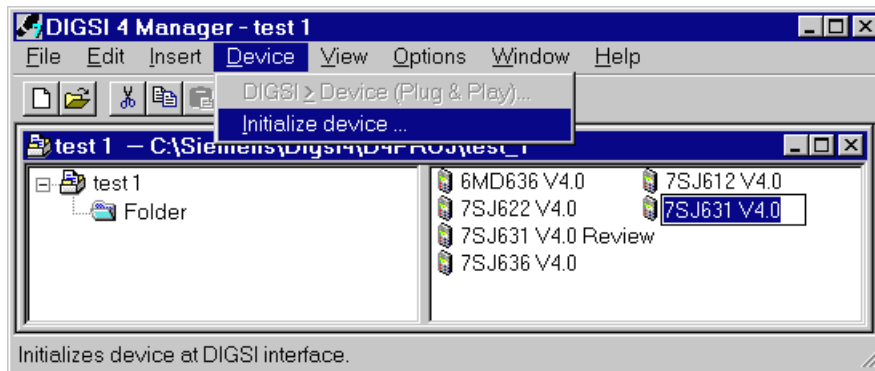

Figure 9-3 Initializing device via DIGSI® 4
- Select **Initialize device** in the menu **Device** (Figure 9-3).